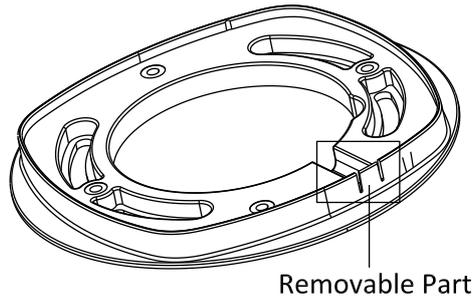

Figure 5-7 Remove the Removable Part
**NOTE:** Use pliers to remove the removable part and route the cables via side outlet (as shown in Figure 5-7) if no cable hole is drilled in step 1, and connect the corresponding cables.